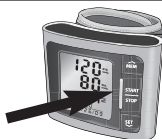

Fig. 4
5. The Hypertension Indicator light on the right side of the display will illuminate green, yellow or red, Fig 4. See page 17 for information regarding interpreting the Hypertension Indicator results.